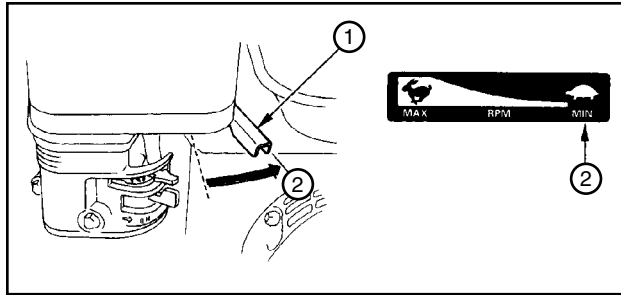

Figure 16-1 1. Throttle Lever
2. Move the throttle lever and adjust engine speed to achieve the desired machine speed/water application depth. See figure 16-1.